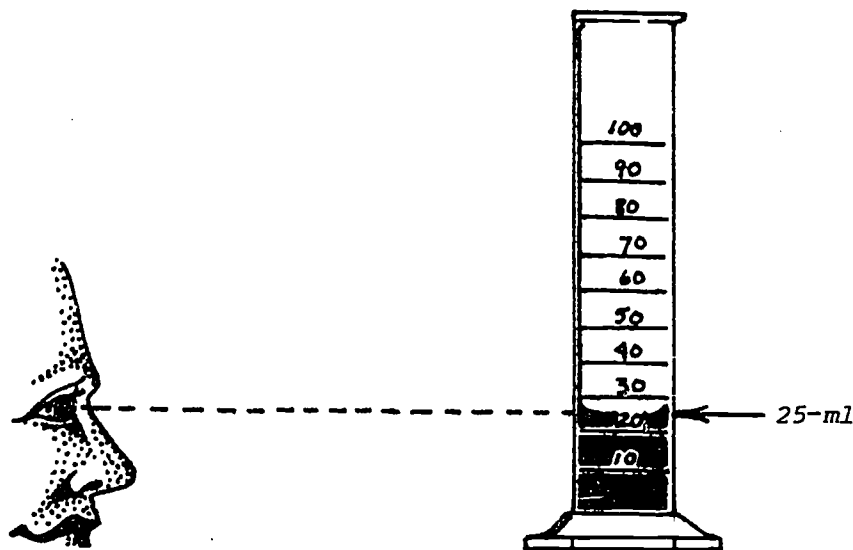

FIGURE 1: Reading a meniscus.
1. Examine the 100-ml graduated cylinder. It is designed to contain one tenth of a liter, and is divided into 100 equal parts (ml). Using a beaker, fill the graduate with water to the 25-ml mark. If you examine it closely, you will notice that the surface of the water is curved (see Figure 1). This curve is called the meniscus. The graduate is designed so that it contains 25 ml when the bottom of the meniscus is even with the 25-ml line (again see Figure 1). Check to see whether your graduate contains 25 ml. If necessary, additional water